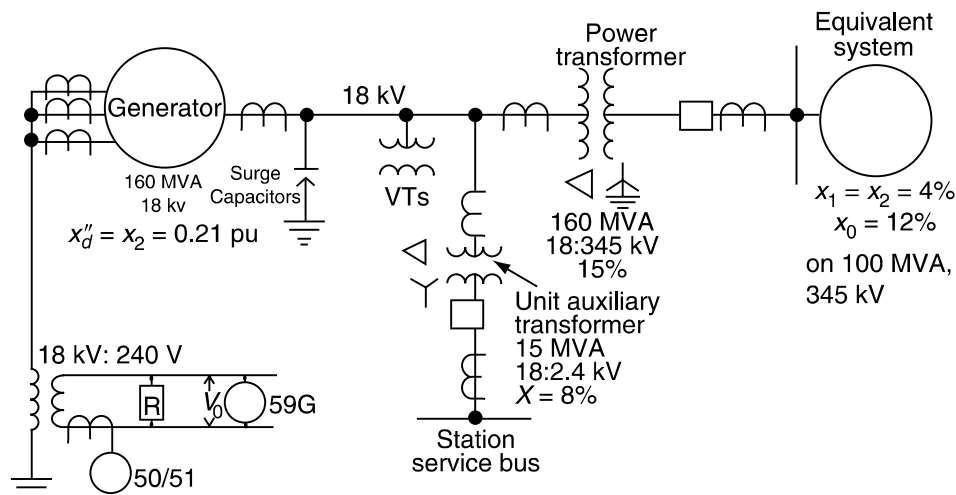

FIGURE P8.2
- 8.2** The unit generator shown in Figure P8.2 has the following capacitance-to-ground values in microfarads per phase: